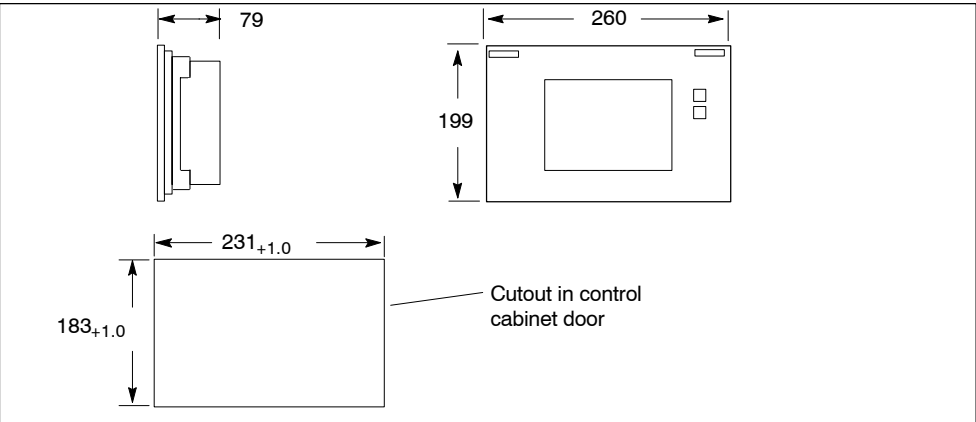
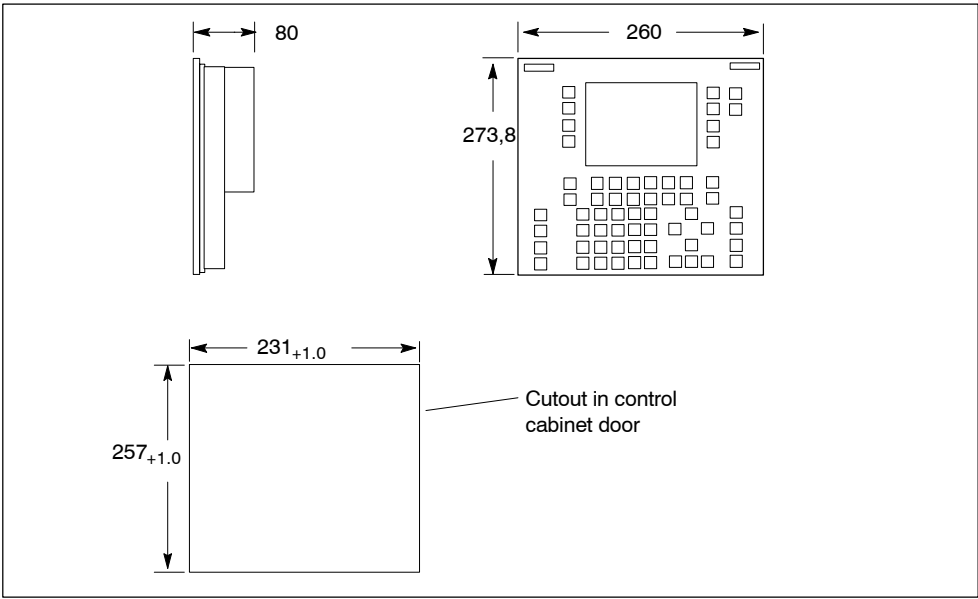

Figure 3-3 Dimension Drawings for the C7-635 Touch (Measurements in mm)
Figure 3-4 Dimension Drawings for the C7-635 Key (Measurements in mm)
1.	<p>C7-635 Touch: Make a cutout in the control cabinet door (dimensions 231+1.0 x 183+1.0 mm). See Figure 3-3.</p> <p>C7-635 Key: Make a cutout in the control cabinet door (dimensions 231+1.0 x 257+1.0 mm). See Figure 3-4.</p>